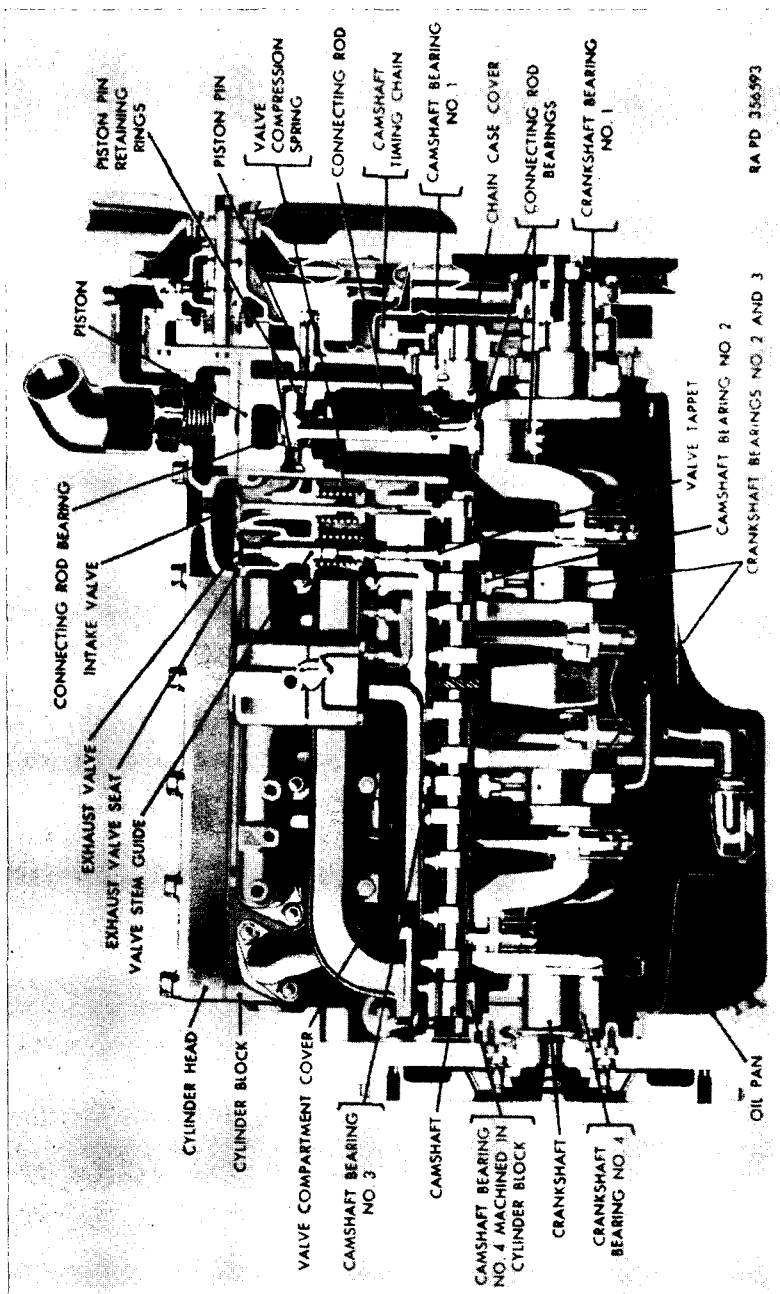

Figure 8. Side of engine—sectional view.
The four crankshaft bearings (fig. 8) are of the precision insert type. Each bearing half consists of a steel back, coated with a thin layer of babbitt on the front surface.
The drop forged connecting rods (fig. 8) are fitted with precision insert type bearings at the lower end. Each bearing half consists of a steel back, coated with a thin layer of babbitt on the front surface. A bronze bearing is installed in the upper end of the connecting rod for the piston pin.
The cylinder block (fig. 8) is the foundation of the entire engine assembly. It houses the crankshaft, pistons, connecting rods, and in some manner affects the positioning of every unit that comprises the power plant. Cooling of the cylinder block is accomplished through the use of a liquid coolant which circulates through the block passages and is distributed to the valve ports and seats by means of a water distributor tube. Tapered seats are provided in the cylinder block for the valves and due to the extremely high temperatures that the exhaust valves and seats are subjected to, the exhaust valve seat is a replaceable insert. The intake valve seat is machined in the cylinder block and is repaired by reseating with a special high speed grinder.
23. Camshaft, Valve Tappets, and Timing Chain (fig. 8)
24. Crankshaft (fig. 8)
(fig. 8)